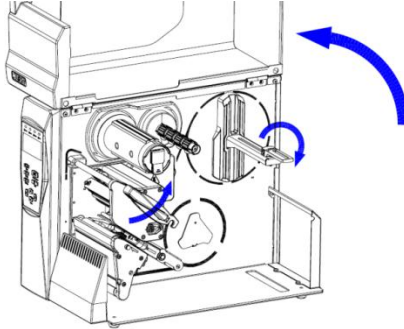

Fig. 2.4.1
- 1) Open the right cover of printer, turn the print head uplifting spanner (16) backward to the angle shown in the figure, and turn the right paper guide (13) to horizontal position (see Fig. 2.4.1);